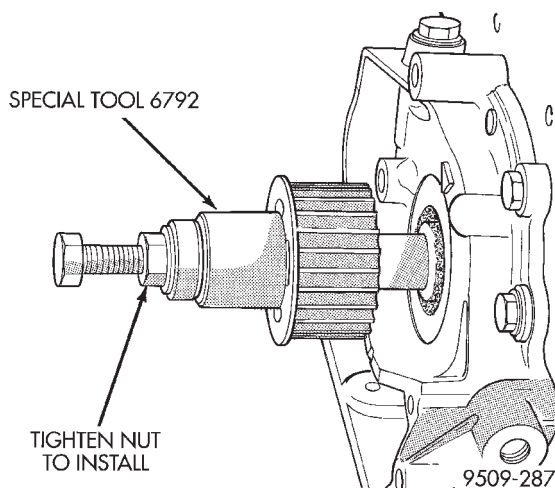

Fig. 74 Crankshaft Sprocket—Installation
- (7) Install crankshaft sprocket, using Special Tool 6792 (Fig. 74).
- (8) Install oil pump pick-up tube and oil pan.
- (9) Install Timing Belt. Refer to procedure outlined in this section.
- (10) Connect negative cable to battery.